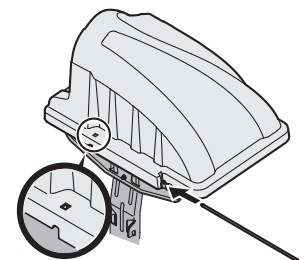

Figure 9
5. Slide the hinge pin into the hole located on the mounting tab, as in Figure 9. Use the cut-out window (inset) to line up the hinge pin on the other side and push pin all the way in until it reaches the end-stop.